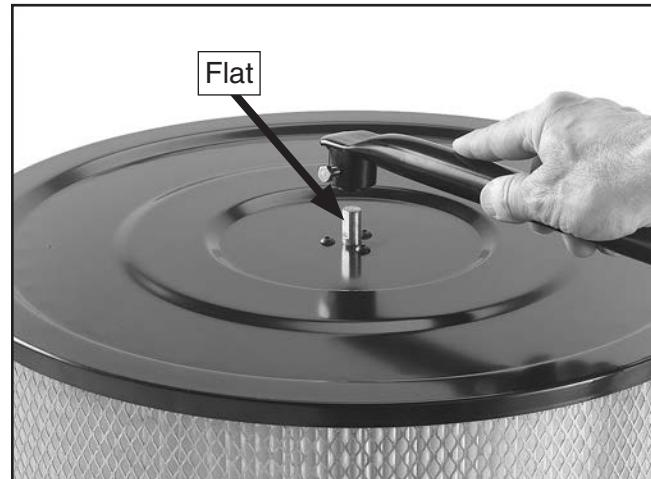

Figure 22. Installing canister handle.
a. Install the canister handle onto the top of the canister filter by tightening the bolt against the flat of the shaft (see **Figure 22**).